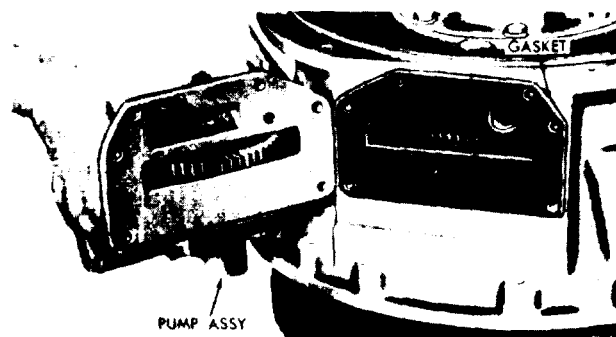

Figure 4C-11. Removing (or Installing) Charging Oil Pump
2. Remove cover (4) and Gasket (3).
3. Remove 36 converter pump-to-converter drive housing bolts (12, Figure 4C-39 on page 4C-34).
4. Remove eleven converter housing-to--disconnect clutch housing bolts (24, Figure 4C-38 on page 4C-33) and lock washers (25).